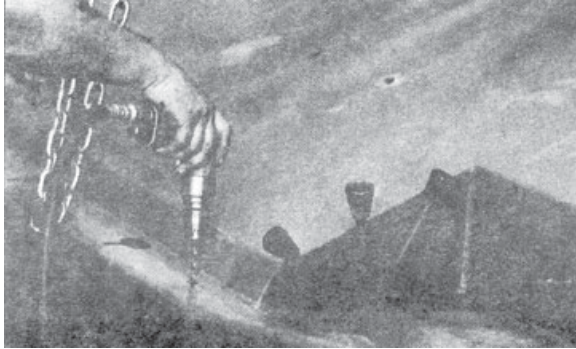

Figure 7-8.
12. Mark the two rear top-of-frame mounting holes using the tailgate mounting holes as a guide. (See Figure 7-8.)